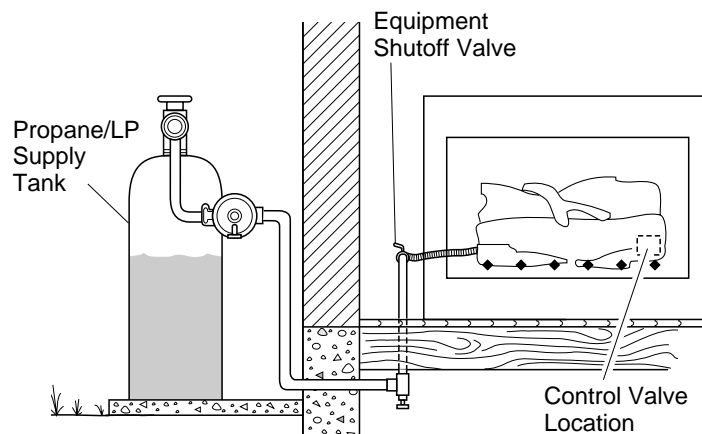

Figure 16 - Checking Gas Joints
3. Check all joints from propane/LP supply tank to equipment shutoff valve (see Figure 16). Apply mixture of liquid soap and water to gas joints. Bubbles forming show a leak.